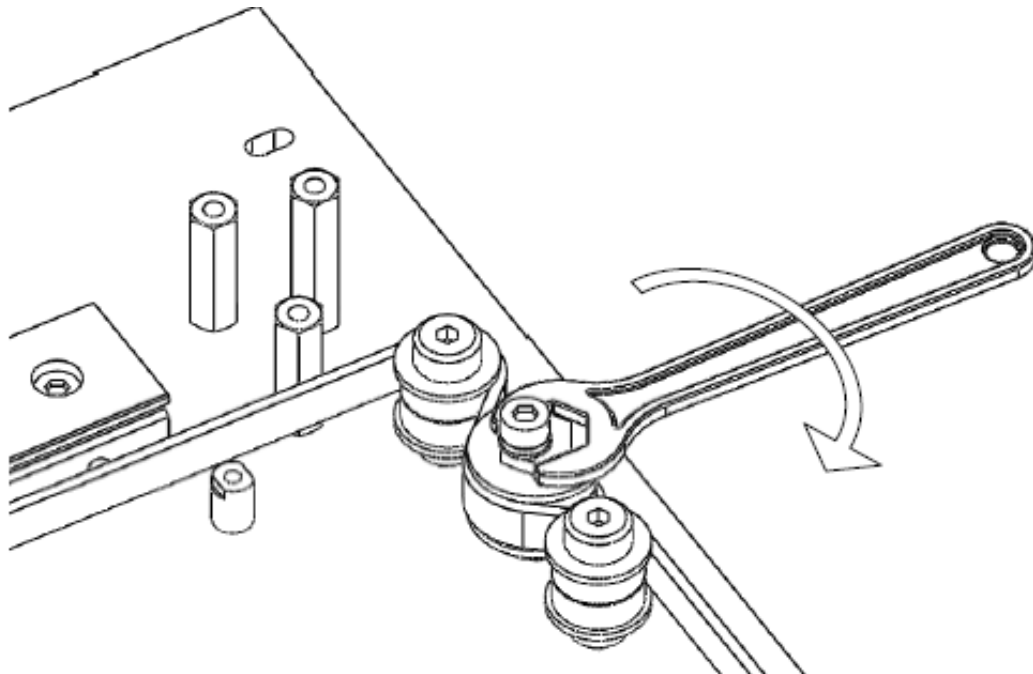

Figure Q-12: Rotating the Idler
4. Tap the belt to cause it to oscillate. While the belt is oscillating and the sensor is in position, press and holds the red button on the meter. The required frequency is 38 ± 1 Hz. If the reading is above or below this value, loosen the Eccentric Idler's screw and rotate the shaft with an 8mm spanner in order to tension the belt (Figure Q-12).